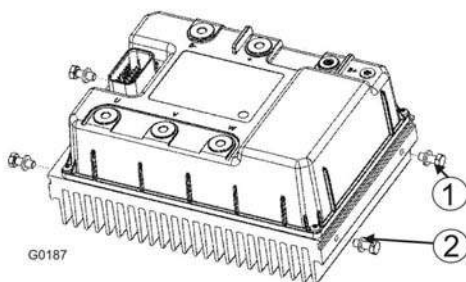

Figure 9. Installing AC SuperDrive with fins heatsink.
1. Attach two (2) mounting brackets to vehicle (OEM supplied), torque according to used bolt dimension.
2. Install AC SuperDrive into mounting brackets (see Figure 9) and tighten attaching bolts to 10 Nm \pm 1Nm.